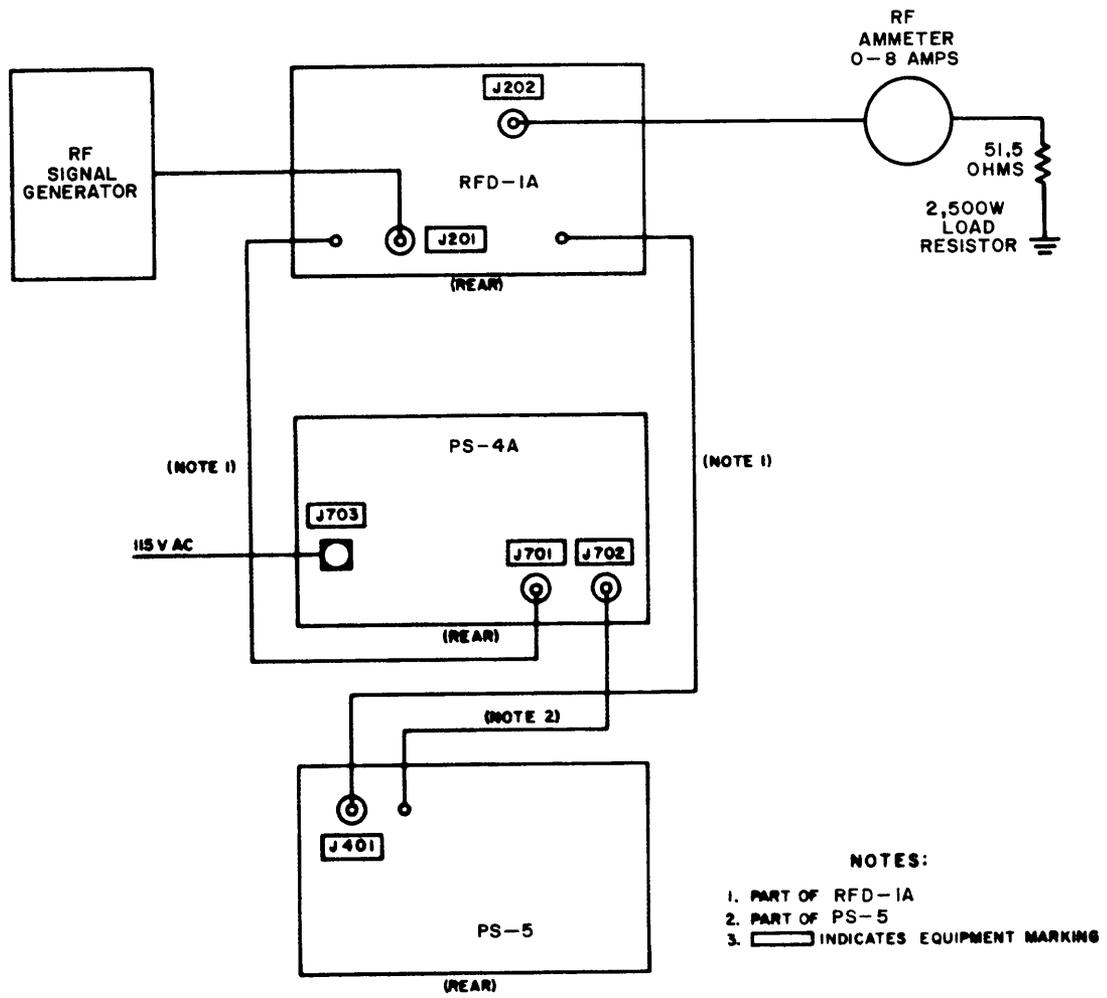

Figure 5-1. Test Setup for Trouble-Shooting PAL-1K(A)
Connect PAL-1K(A) to line voltage and dummy load as shown in figure 5-1. Do not connect r-f signal generator until step 8 of table 5-1. Test equipment required is as follows: